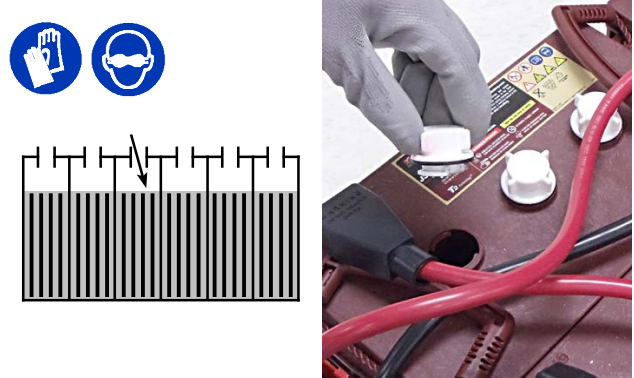

FIG. 108
1. Check the electrolyte level in all batteries (Figure 108). See BATTERIES.